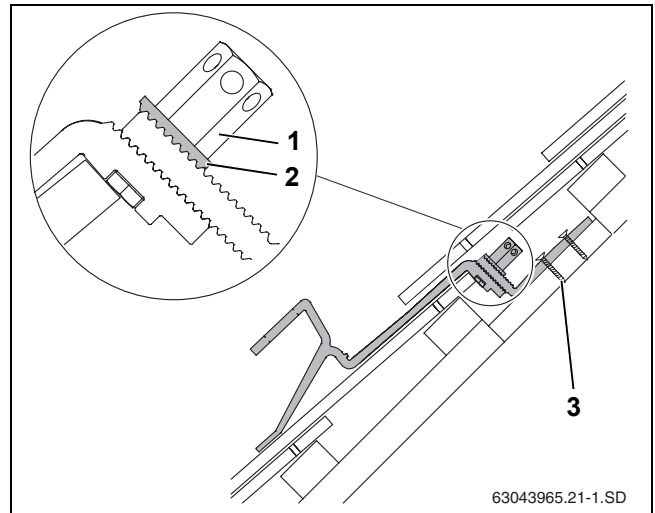

Fig. 18 Assembled roof hook. View of section with trimmed lower part of roof hook
The serrated washer (Fig. 18, [2]) must grip the serrations on the lower part of the roof hook.
- ▶ Tighten the long hexagon nut (Fig. 18, [1]). To do so, insert the size spanner into the hole in the hexagon nut and turn.
- ▶ Secure the lower part of the roof hook to the rafter in at least the first (Fig. 18, [3]) and second holes of the using suitable screws.